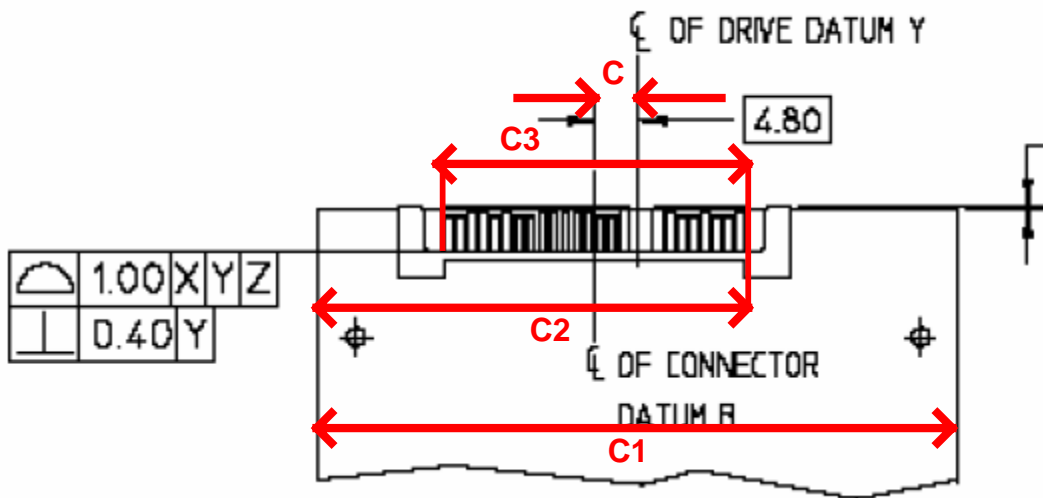

Figure 16
1. Using the outside measurement jaw of the calipers measure the value of  $C1$  as shown in Figure 16. Record the value of  $C1$ .
2. Using the outside measurement jaw of the calipers measure the value of  $C2$  as shown in Figure 16. Record the value of  $C2$ .
3. Using the outside measurement jaw of the calipers measure the value of  $C3$ , the width of the device plug connector as shown in Figure 16. Record the value of  $C3$ .